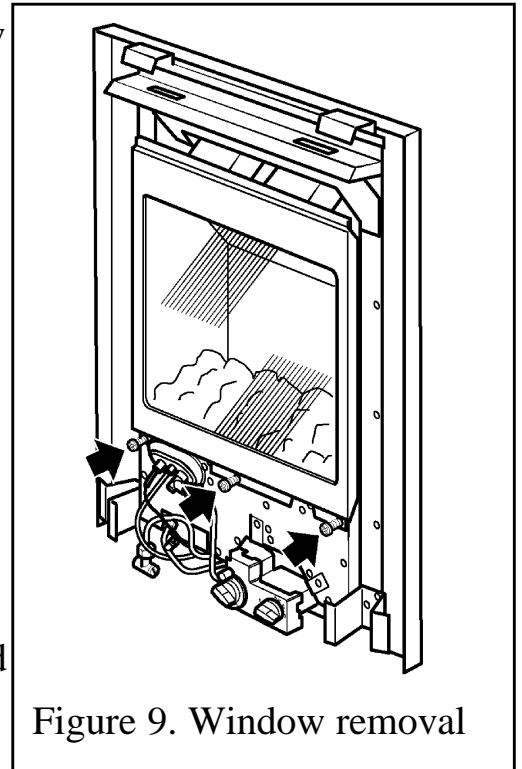

Figure 9. Window removal
- Unscrew and remove the three spring loaded window fixing screws and washers from the base of the window frame (See figure 9). Keep the screws and washers in a safe place.